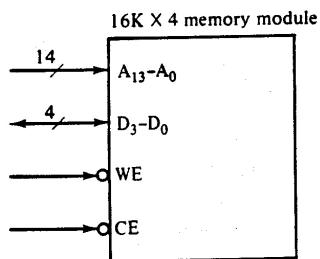

Figure 6.46 Memory module for Problem 6.33.
- 6.33. Construct the $16K \times 4$ memory module of Fig. 6.46 by using four $16K \times 1$ dynamic RAMs [as shown in Fig. 6.30(b)], a DRAM controller (similar to the one shown in Fig. 6.32), and any additional logic that is needed. Note that the data lines of the memory module are bidirectional, whereas the data lines of the $16K \times 1$ dynamic RAMs are divided into DIN and DOUT. (*Hint:* Use three-state buffers.)